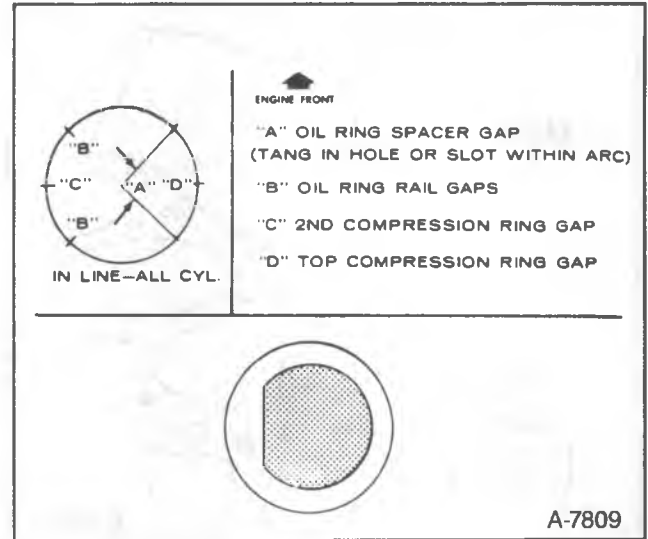

Figure 54—Piston Ring Gap Location
- Locate the ring end gaps as shown in figure 54.